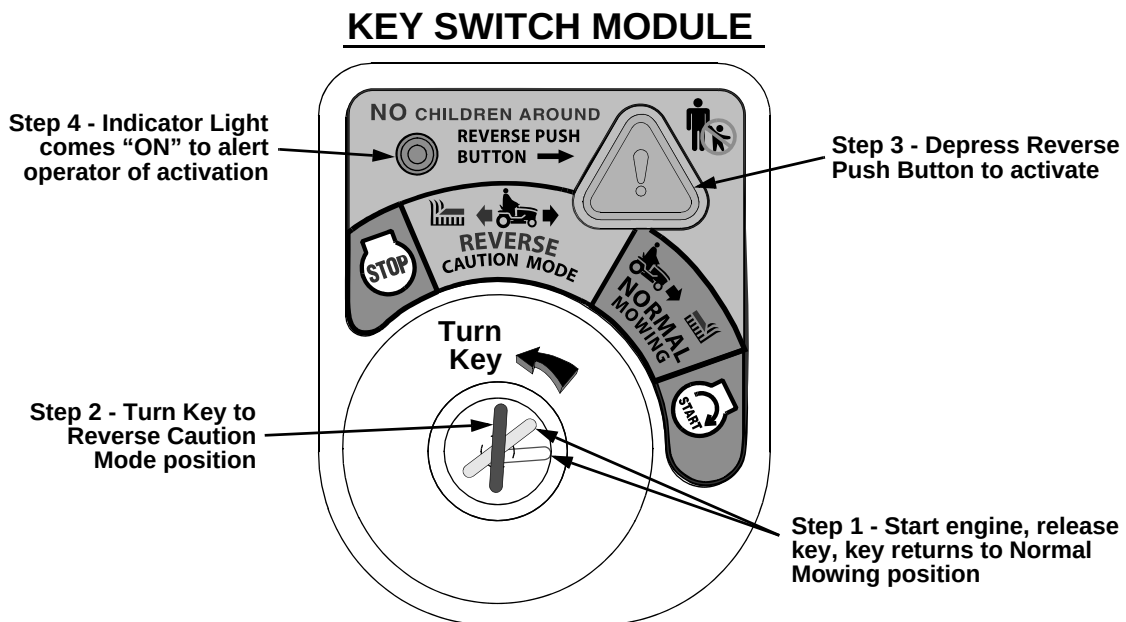

Figure 4-4
2. Turn the key from the "NORMAL MOWING" (Green) position to the "REVERSE CAUTION MODE" (Yellow) position of the key switch module. Refer to Figure 4-4.
3. Depress the "REVERSE PUSH BUTTON" (Orange/Triangular Button) at the top/right corner of the key switch module. The red indicator light at the top/left corner of the key switch module will be "ON" while activated. Refer to Figure 4-4.